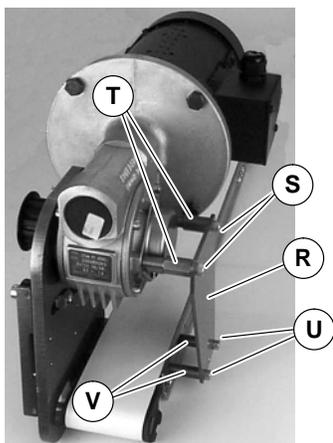

Figure 8
- Install hex posts (T of Figure 8). Attach wide end of support plate (R) to hex posts with screws (S). Attach narrow end of support plate to conveyor, using spacers (V) and screws (U). Tighten screws to 80 in-lb (9 Nm).